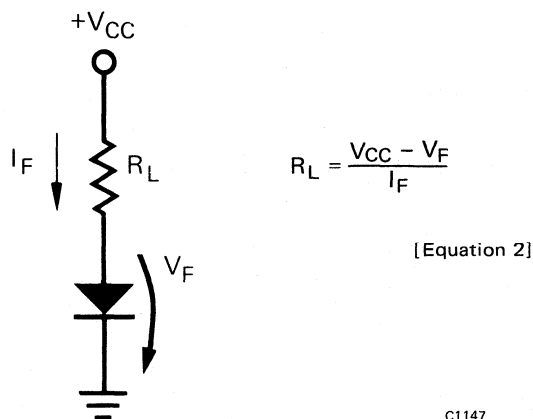
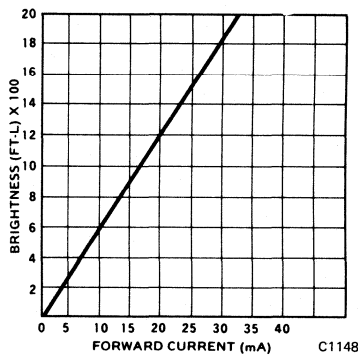
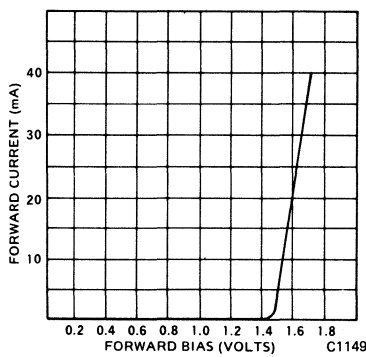

Figure 2.
Figure 3a.
Figure 3b.
**Basic DC Circuit.** For the simple circuit shown in Figure 2 the resistor value can be calculated from
**Design Example #1:** Suppose that a MV50 is to be used with Figure 2's circuit and a  $V_{CC}$  of +5 volts. Figure 3a shows the MV50's Brightness versus  $I_F$  curve, and Figure 3b shows  $I_F$  vs.  $V_F$ . (Note that Brightness varies directly with  $I_F$ ). Further suppose that a Brightness of 800 foot-Lamberts is decided upon. From Figure 3a we see that  $I_F$  must be set at 13 mA, from Figure 3b we see that  $V_F$  will be 1.5 volts when  $I_F$  is 13 mA. Substituting these values in Equation 2, we obtain